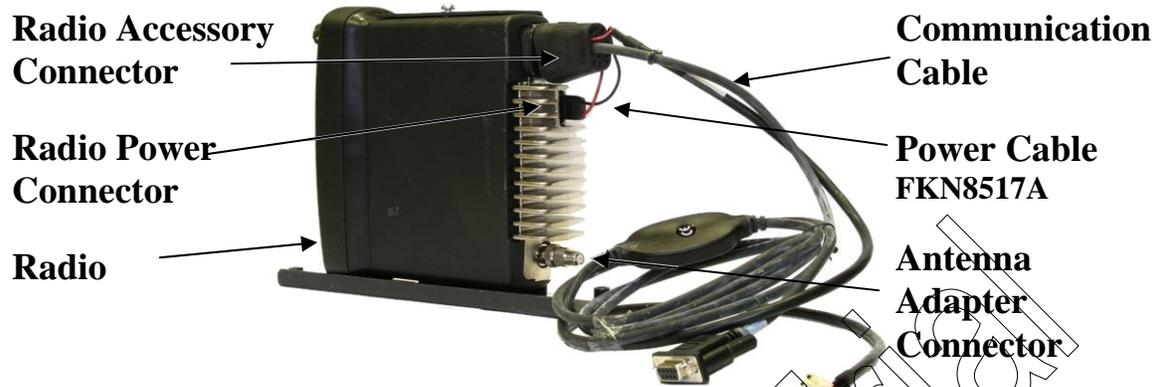
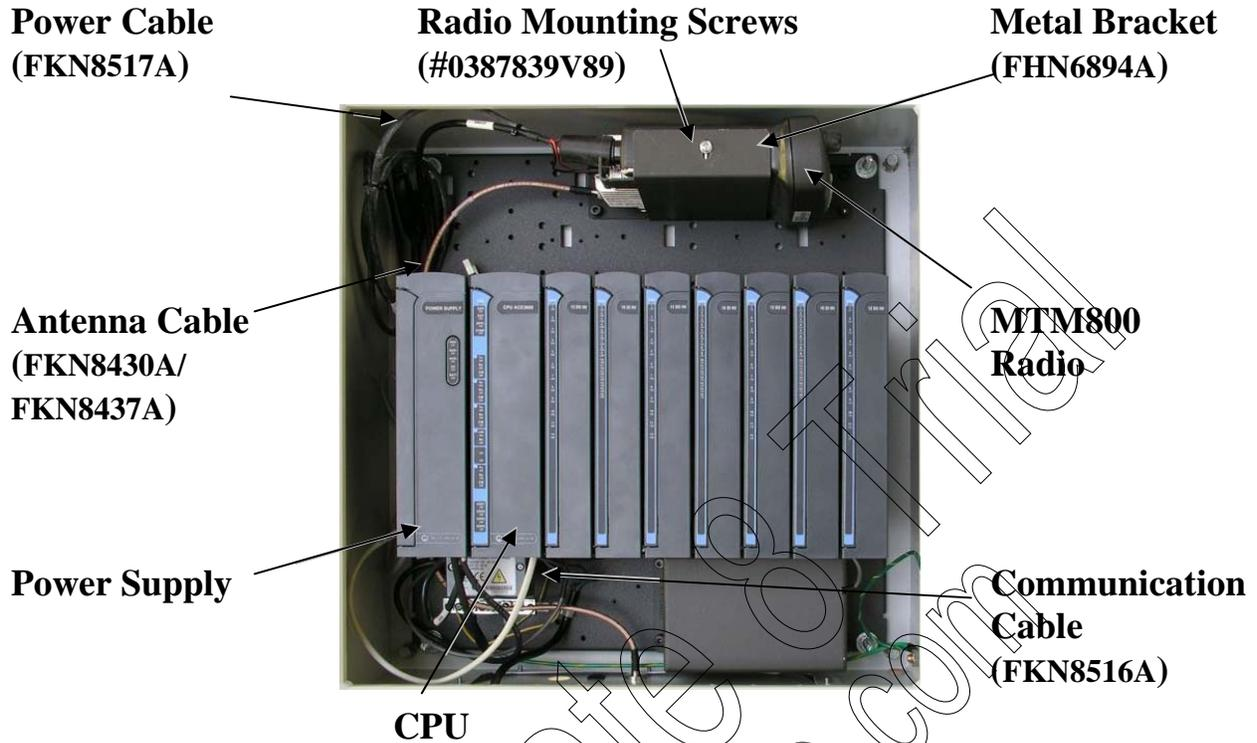

Figure 21-62 MTM800 Radio Cable Connections
Figure 21-63 MTM800 Radio Installed on ACE3600 Chassis
2. Connect the 20-pin connector radio signal and power cable (FKN8517A) to the accessory connector on the radio. (See Figure 21-61 and Figure 21-62.)
3. Connect the end of the power cable (FKN8517A) to the radio's power connector. (See Figure 21-61 and Figure 21-62.) Connect the other end of the power cable to the AUX1A or AUX1B connector on the ACE3600 RTU Power Supply unit. (See Figure 21-63.)
4. Connect the communication cable (FKN8516A) to the end of the power and signal cable using the attached screws (FKN8517A). (See Figure 21-62.) Place one Fair-Rite soft ferrite (#7683477X01 from the supplied ferrite kit FHN7007A) on the cable near the bottom of the CPU door, loop the cable one turn around it, and clamp the ferrite on the cable. Connect the other end of the communication cable to the plug-in port of the ACE3600 CPU.
5. Mount the MTM800 radio onto the metal bracket (#0789422V45) using the two supplied radio mounting screws from kit FHN6894A, # 0387839V89 on the top and bottom of the radio. (See Figure 21-61, Figure 21-62 and Figure 21-63.)
6. Connect the antenna cable (FKN8430A/FKN8437A*) to the antenna adapter connector on the radio and to the opening on the bottom of the ACE3600 housing using the appropriate bushing. (See Figure 21-63.) Mount the complex (bracket and radio) on the RTU chassis above the CPU and I/O modules, using the four built-in screws. (See Figure 21-63.)